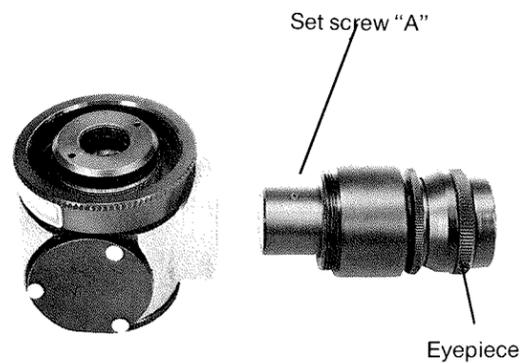

Figure A-4. Right Angle Eyepiece
2. Remove the eyepiece and adapter from the Eyepiece assembly. (See Figure A-4.) Loosen setscrew "A" with a 0.023 inch socket wrench.